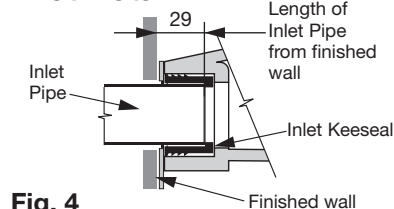

Fig. 4
- 3- Set the length of the Fixing Studs 38mm from the finished wall surface, as detailed in **Fig. 4**.
- 4- Set the Inlet Pipe to 29mm from the finished wall, as detailed in **Fig. 4**.